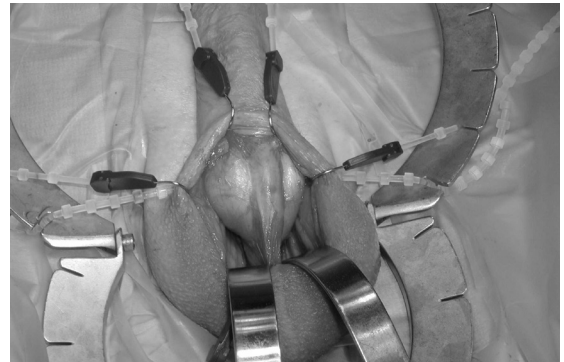

Figure 4-16.
5. This is repeated on the contralateral side exposing the scrotal septum. **(Figure 4-16)**